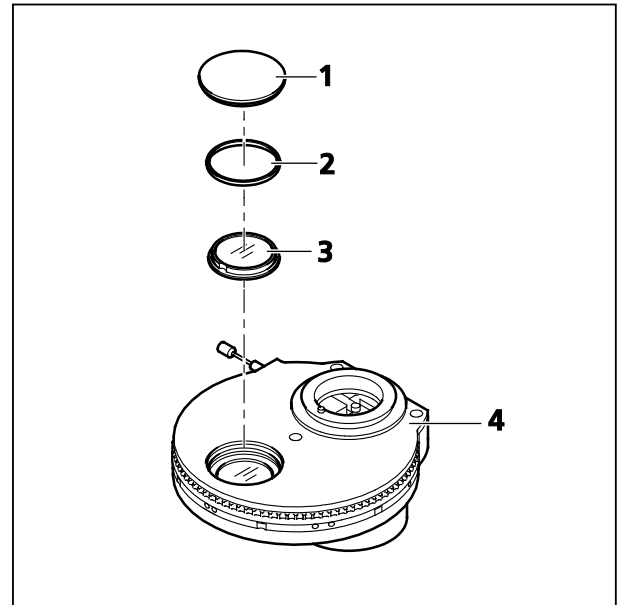

Fig. 33 Changing the DIC prism
- Remove the plastic cover (Fig. 33/1) from the mounting hole on the condenser (Fig. 33/4).
- Unscrew the retaining ring (Fig. 33/2) using the mounting plate from the tool set.
- Turn the condenser upside down and allow the DIC prism (Fig. 33/3) to slide out onto a soft surface.